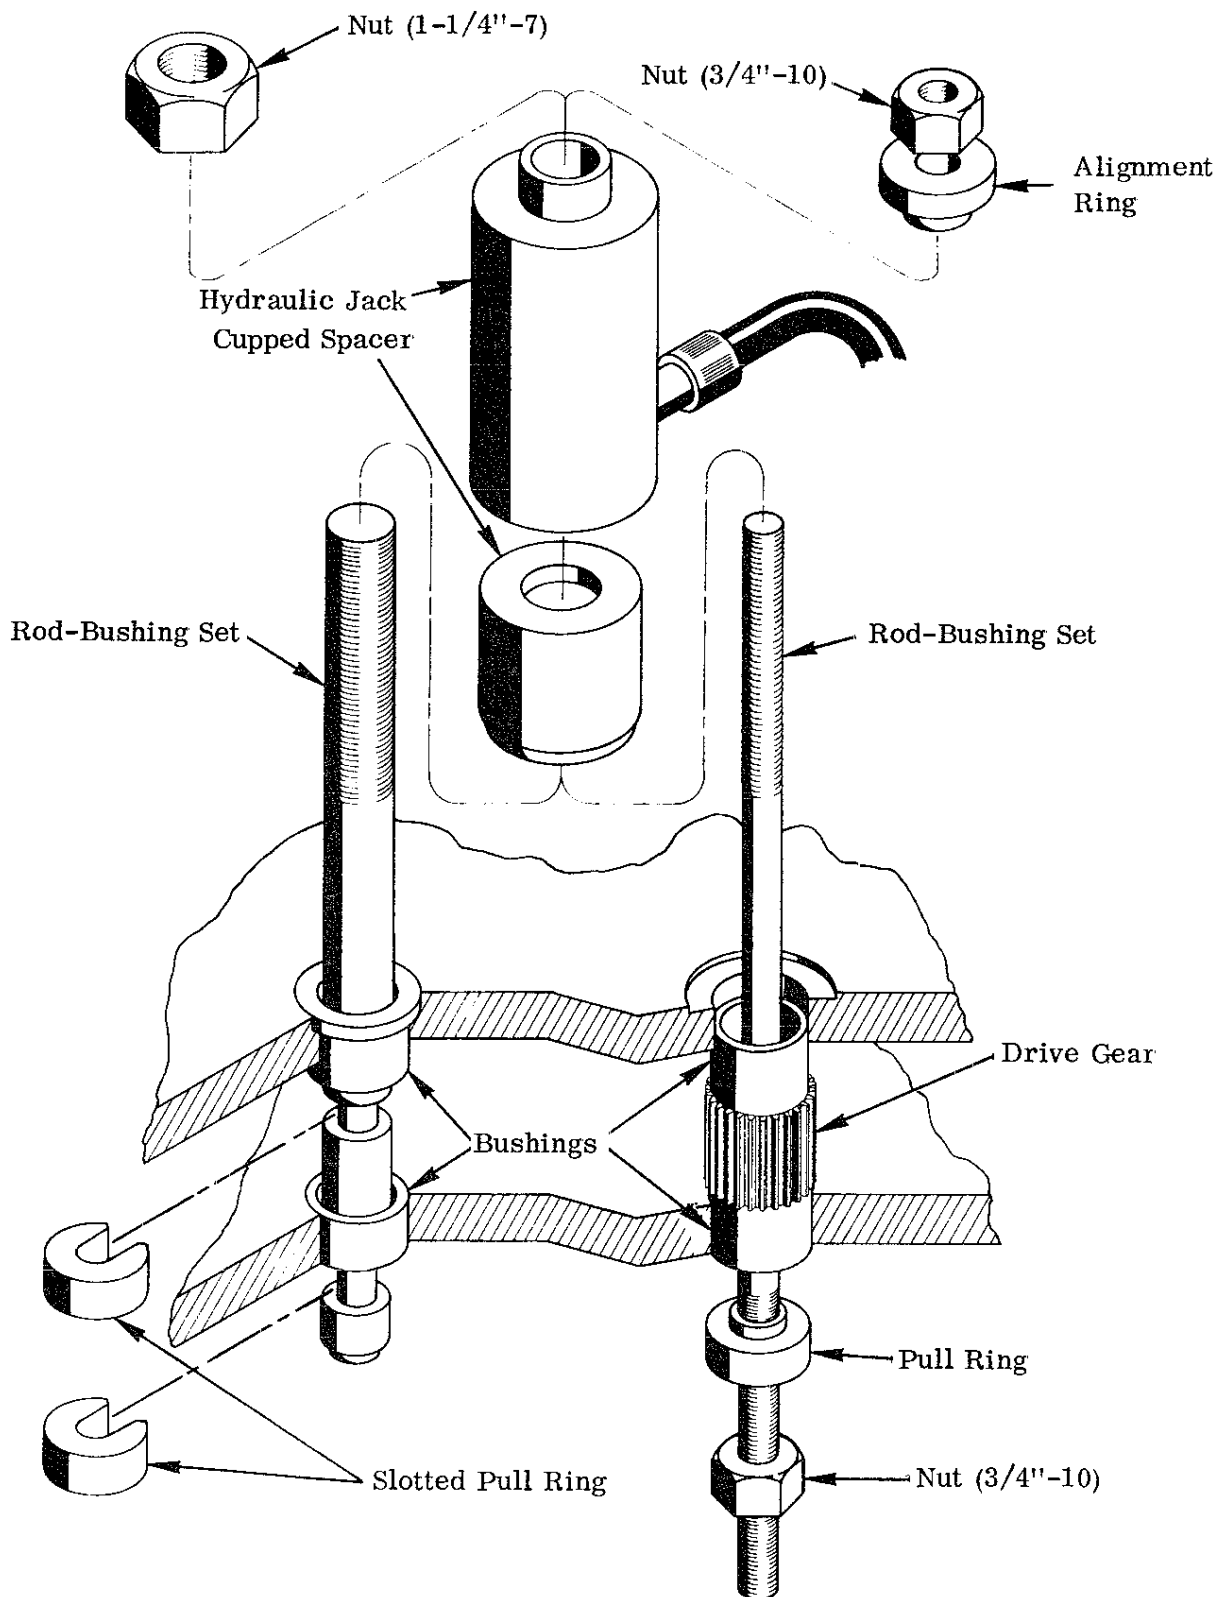

Figure G-7. Bearing Removal
- 2 Install the optional bearing removal tool as shown (Figure G 7). Apply power to pull the bushings upward.